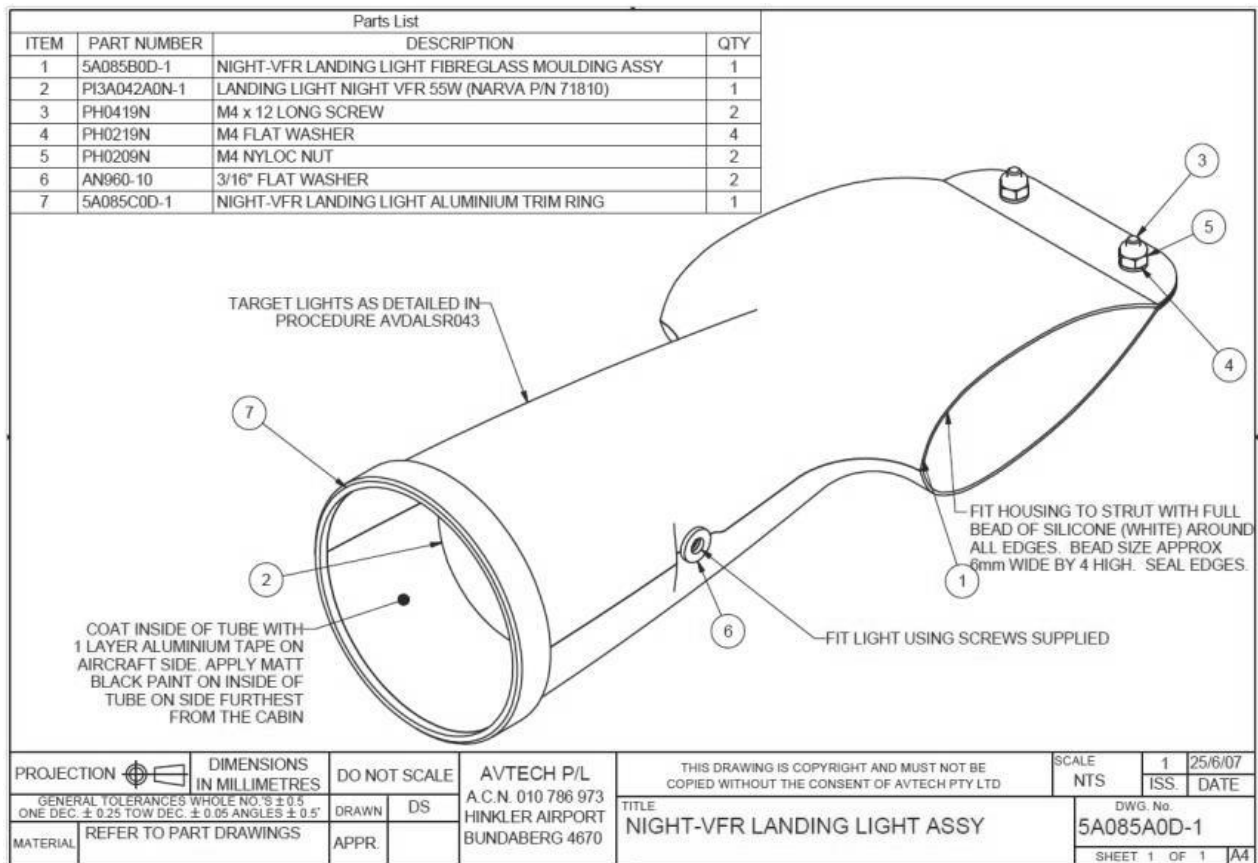

Figure 71 – Night-VFR Landing / Taxi Light Assy (all J-Series)
- Note that Figure 69, Left, shows the light during a test fit; the trim ring, internal paint and Aluminium tape (see Figure 71) have not been fitted yet.